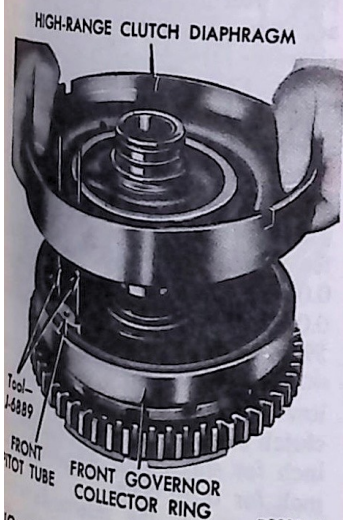

FIG. 57 High-Range Clutch Installation
15. Install the high-range clutch with the front governor collector ring facing upward. Install the two guide bolts in the front pitot tube on the side of the pitot tube that the drilled port is located (Fig. 57). The guide bolts can be made from two 5 -inch lengths of 3/16-inch diameter brazing rod threaded with a 10-32 die a distance of 3/8 inch. Round off the unthreaded ends of the guide bolts.